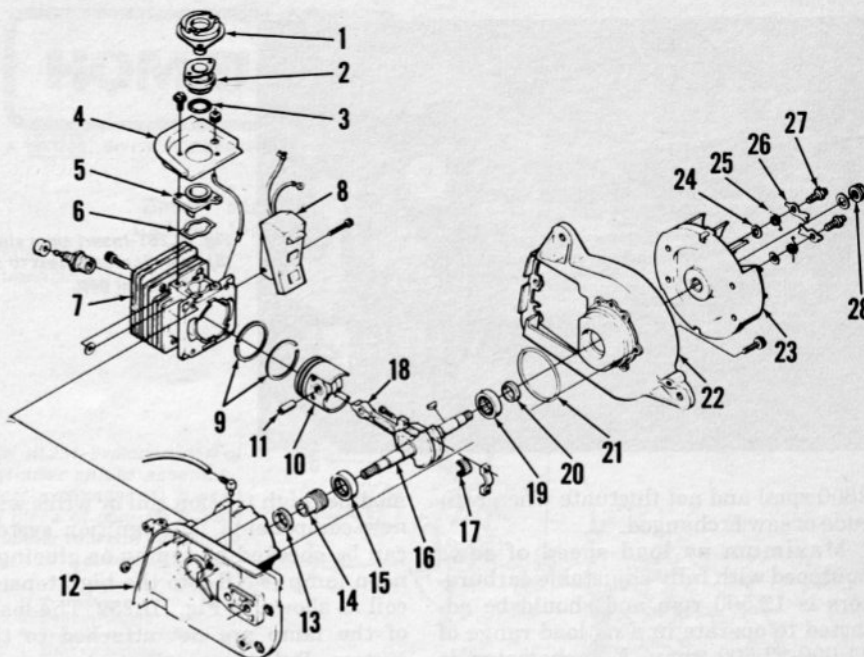

Fig. HL257—Exploded view of engine.
A thin coat of suitable RTV silicone rubber sealant should be applied to both sides of intake gasket (6—Fig. HL257).
Reverse isolator removal procedure to reassemble saw. Apply a thin coat of RTV silicone rubber sealant to both sides of intake gasket (6—Fig. HL257). Carburetor pulse line should be routed around rear of air box and over carburetor control rods before connecting pulse line to carburetor. Tighten carburetor retaining screws to 45 in.-lbs. and isolator pins (6—Fig. HL255) to 80 in.-lbs. Tighten handle brace (9) screws to 45 in.-lbs.
CRANKSHAFT, CRANKCASE AND SEALS. To disassemble crankcase, remove clutch as outlined in CLUTCH section and then remove starter housing and flywheel assemblies. Remove connecting rod as previously outlined. Unscrew screw securing back plate (22—Fig. HL257) to crankcase (12). Bearings and seals may be pressed out of back plate and crankcase using Homelite tools previously listed. Inspect crankshaft bearings, seals and "O" rings (21) for damage or excessive wear. Be sure "O" ring is properly seated during assembly of crankcase.